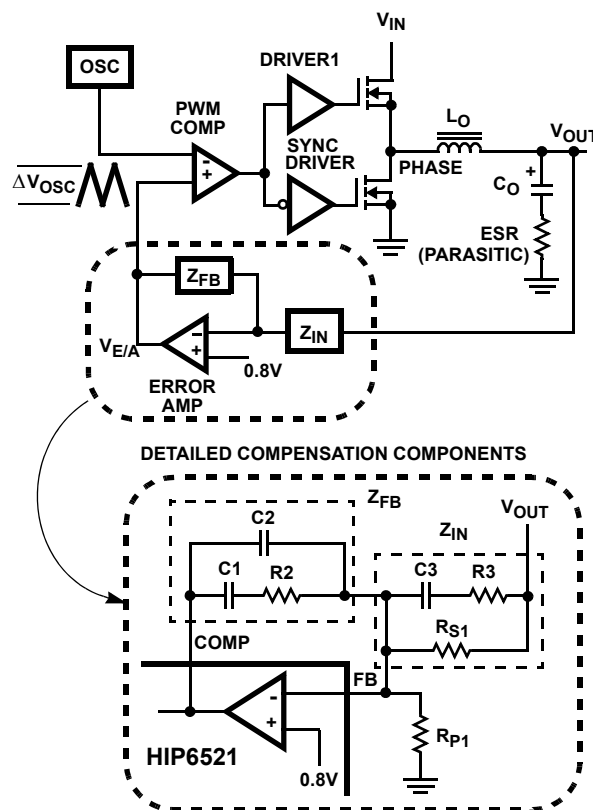
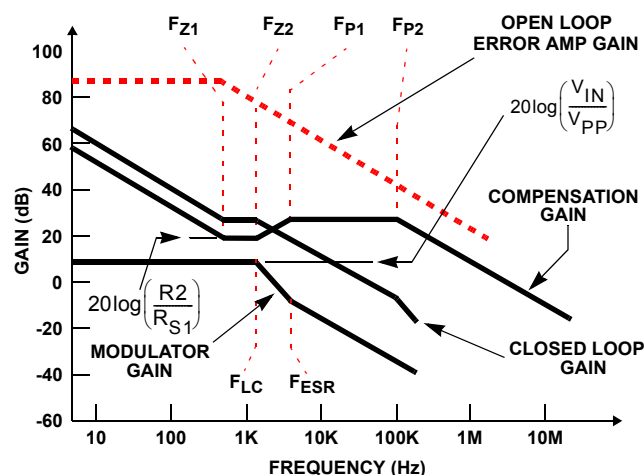

FIGURE 6. VOLTAGE-MODE BUCK CONVERTER COMPENSATION DESIGN
FIGURE 7. ASYMPTOTIC BODE PLOT OF CONVERTER GAIN
Figure 6 highlights the voltage-mode control loop for a synchronous-rectified buck converter. The output voltage (V_{OUT}) is regulated to the Reference voltage level, 0.8V. The error amplifier (Error Amp) output ($V_{E/A}$) is compared with the oscillator (OSC) triangular wave to provide a pulse-width modulated (PWM) wave with an amplitude of V_{IN} at the PHASE node. The PWM wave is smoothed by the output filter (L_O and C_O).
The compensation network consists of the error amplifier (internal to the HIP6521) and the impedance networks Z_{IN} and Z_{FB} . The goal of the compensation network is to provide a closed loop transfer function with high 0dB crossing frequency (f_{0dB}) and adequate phase margin. Phase margin is the difference between the closed loop phase at f_{0dB} and 180° . The equations below relate the compensation network's poles, zeros and gain to the components (R_1 , R_2 , R_3 , C_1 , C_2 , and C_3) in Figure 6. Use these guidelines for locating the poles and zeros of the compensation network:
Figure 7 shows an asymptotic plot of the DC/DC converter's gain vs. frequency. The actual Modulator Gain has a high gain peak dependent on the quality factor (Q) of the output filter, which is not shown in Figure 6. Using the above guidelines should yield a Compensation Gain similar to the curve plotted. The open loop error amplifier gain bounds the compensation gain. Check the compensation gain at F_{P2} with the capabilities of the error amplifier. The Closed Loop Gain is constructed on the log-log graph of Figure 10 by adding the Modulator Gain (in dB) to the Compensation Gain (in dB). This is equivalent to multiplying the modulator transfer function to the compensation transfer function and plotting the gain.